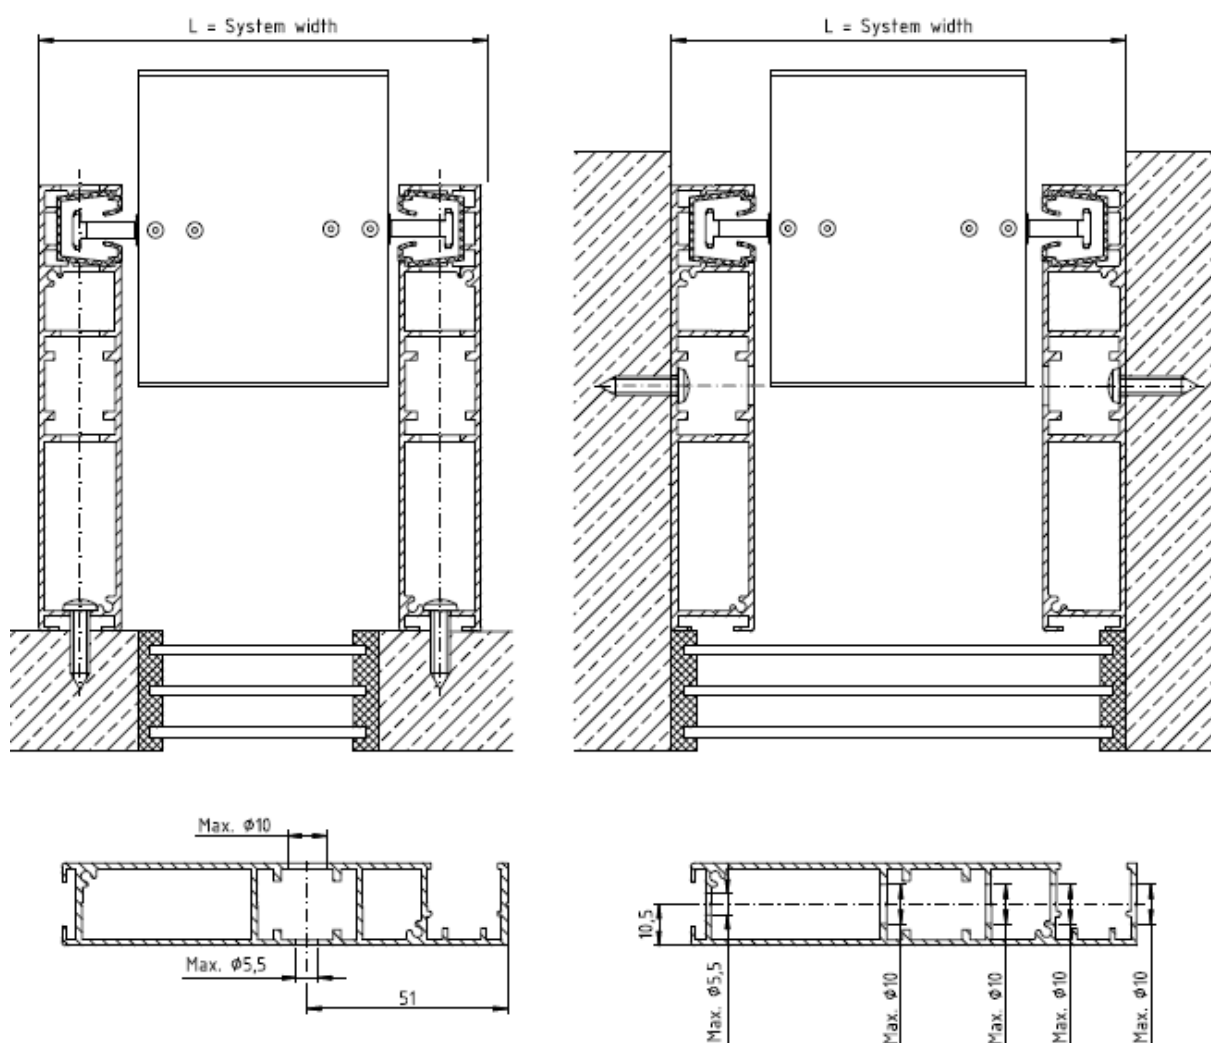

Fig. 13. Guide rail installation: a) – window frame installation b) – niche installation
- Guide rail profiles are delivered without installation holes. They have to be done individually according to the below guidelines (Fig. 13 and 15). At least 3 openings are required for each 1m of length of the guide rail profile. Remember to remove guiding profile when drilling openings in the guide rail.